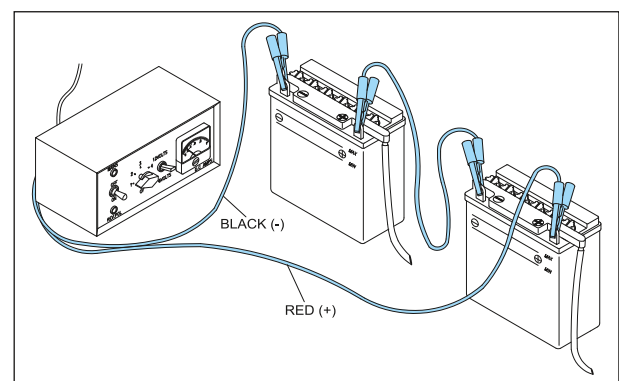

Fig. 6.61
- In case of multiple batteries, batteries must be connected in series with the battery charger. (Fig. 6.61)